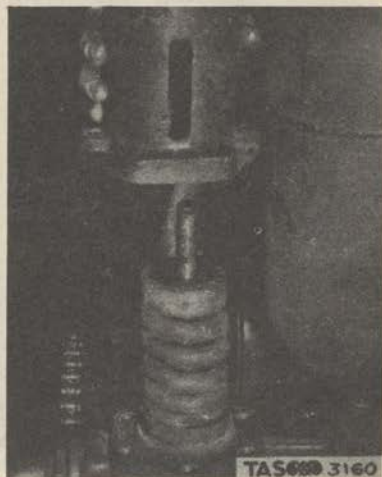

Figure 106. Removing
(4) Remove the spring housing. (Fig. 106)